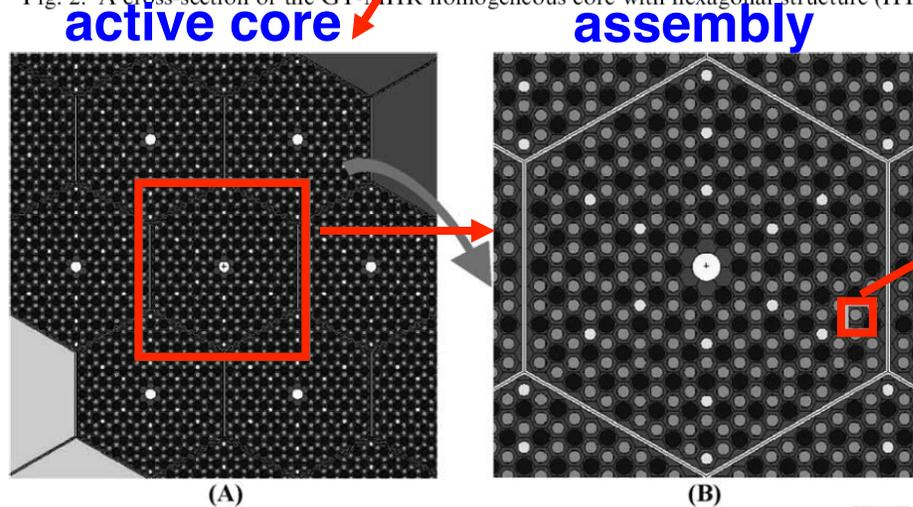

Fig. 3
Fig. 3. Fragments of single-heterogeneous GT-MHR (HTR2): (A) an active core structure: three rings of hexagonal fuel columns; (B) magnified view of a separate fuel assembly. Fuel compacts are presented in small grey circles, burnable poison compacts in light grey. Bigger diameter holes stand for He channels, while the rest material represents the graphite matrix.
Fig. 3. Cross section of the odd layers of the hcp configurations, case 4 with polyethylene rods. The figure is generated with the visualization tools of the MCNP program.